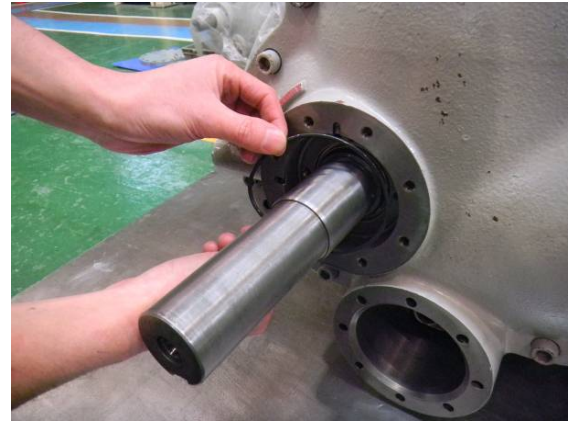

Fig. 082 Attaching O-ring [49]
- Next, insert the O-ring **[49]** for the oil seal retainer (Fig.082).